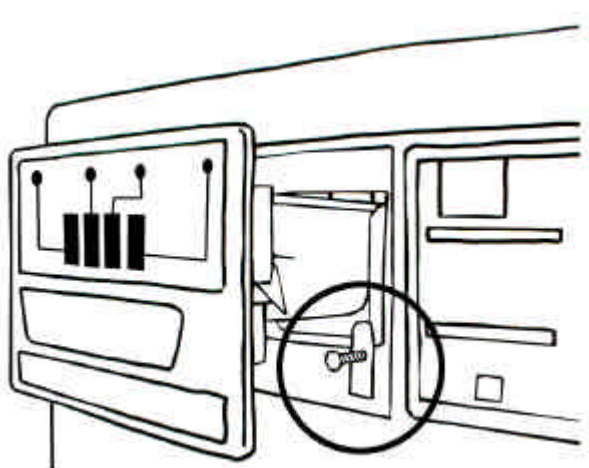

fig. 5
8. Remove the dispenser drawer, disassembling the two "stops" (fig. 5).